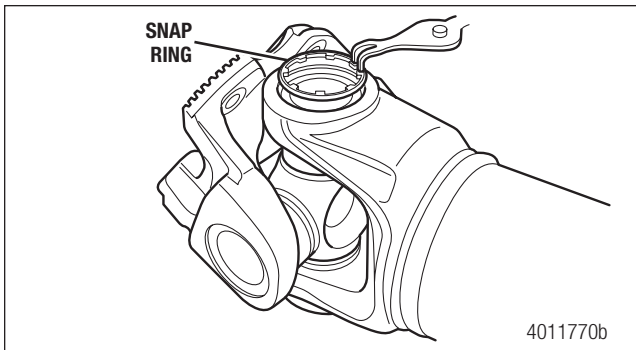

Figure 5.98
8. Install the snap ring. If necessary, use a drift and hammer help seat the snap ring in the groove. If the snap ring will not seat correctly, make sure the snap ring groove is clean and free of debris. Figure 5.98.